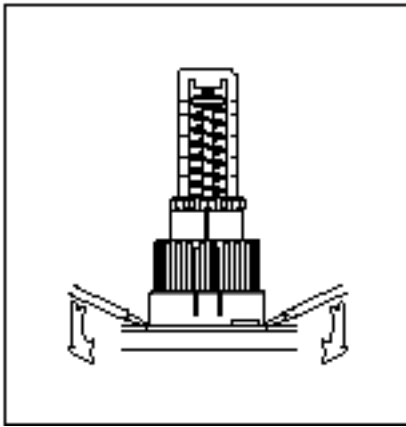

Figure 9a
- a) Removing white plastic locking ring using 2 small screwdrivers as shown (Fig. 9a).
1. Remove white plastic locking ring using 2 small screwdrivers as shown (Fig. 9a).